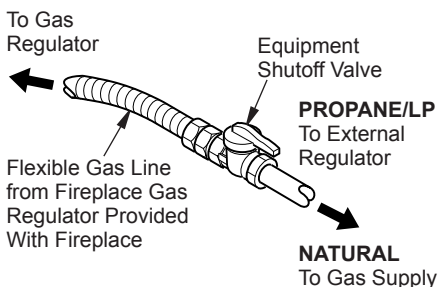

Figure 9 - Attaching Flexible Gas Line to Equipment Shutoff Valve
2. Apply pipe joint sealant lightly to male threads of gas connector attached to flexible gas line/equipment shutoff valve (see Figure 9).